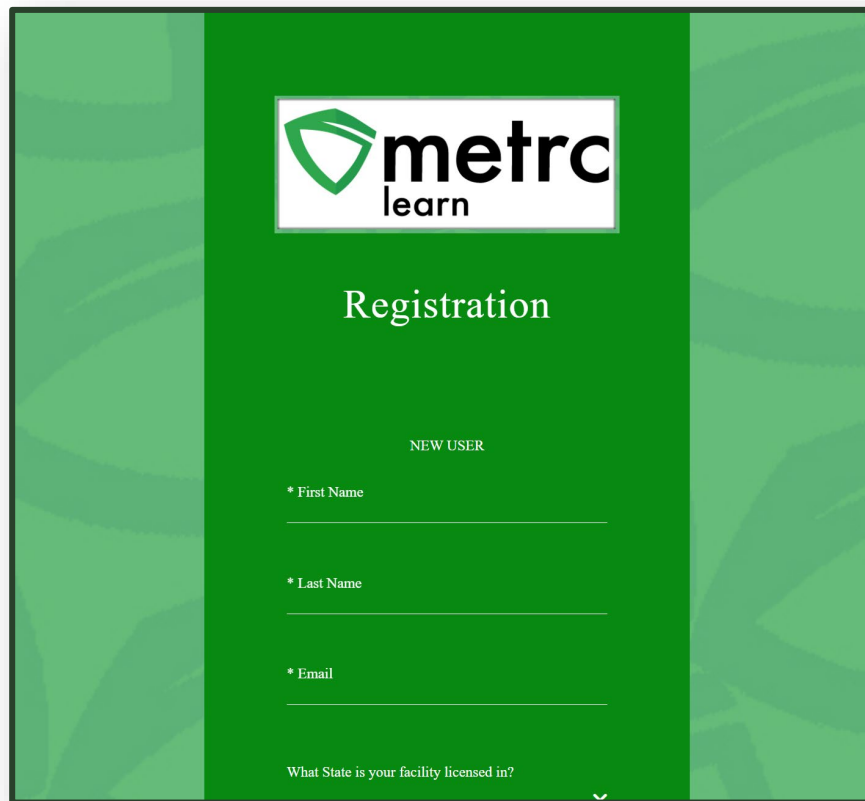

Figure 26: Metrc Learn Registration page
- Navigate to the Metrc Learn Registration page – see **Figure 26**